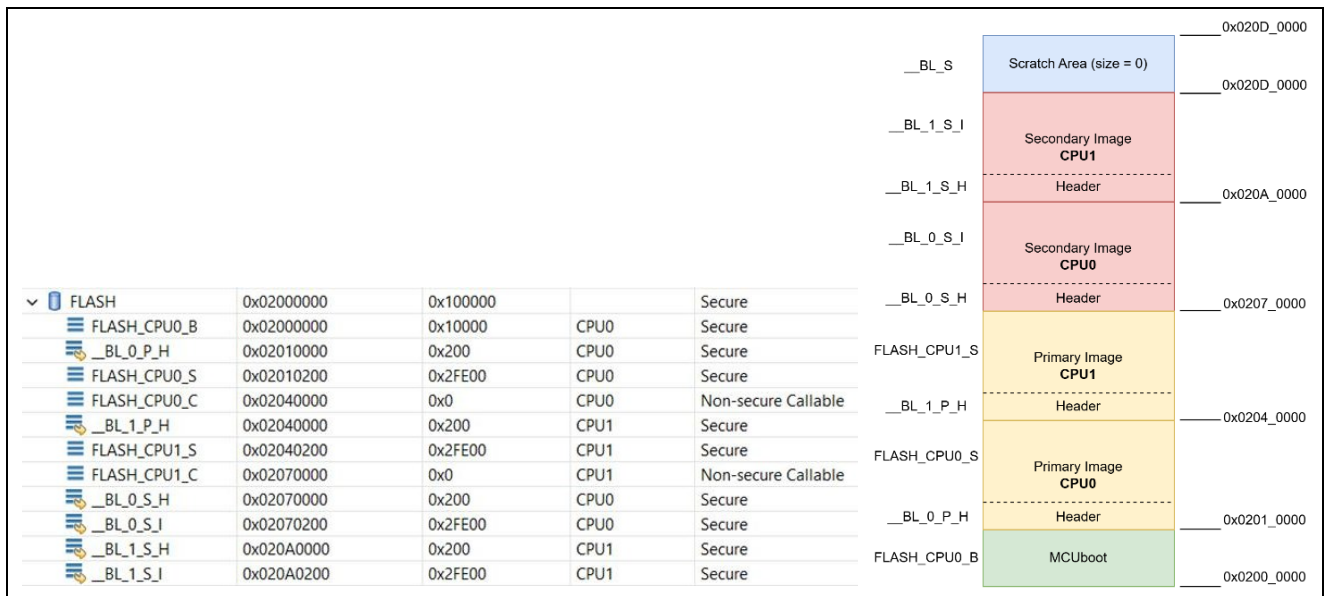

Figure 43. Define Flash Partitions for Bootloader and Application Images
- Add the memory layout for bootloader and application. In this example, the memory partitions are defined according to the memory map shown in Figure 43. About the symbol conventions for memory partitioning, user can refer to the guide at FSP User's Manual under RA Flexible Software Package Documentation > API Reference > Modules > Bootloader > MCUboot Port (rm_mcuboot_port).
Note that for different update modes and different application images, the load address needs to be updated. For the example projects included in this application project, you can reference the memory configuration images included in Figure 43 to set up the load address.